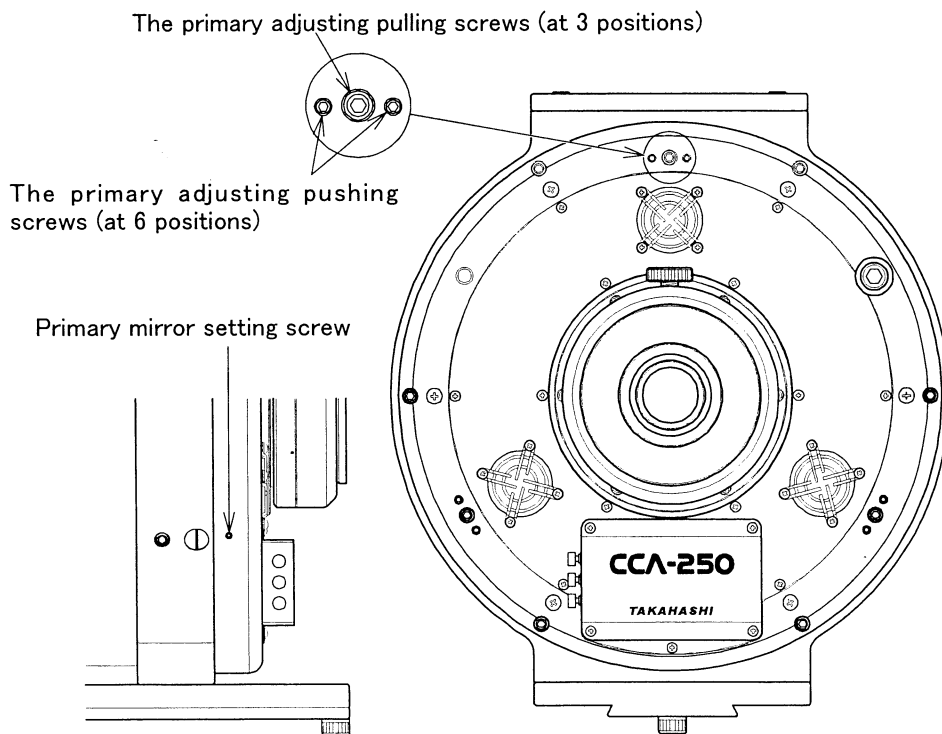

Fig.9
3. Loosen with 2mm Allen wrench 3 sets of the lock screws, which lock the optical axis of the primary. Refer to the Fig. 9.
5. As in the secondary adjusting system, the screws with hexagon hole are the pulling screws and the ones at the both side of the pulling screws are the pushing screws. Refer to the Fig. 9.